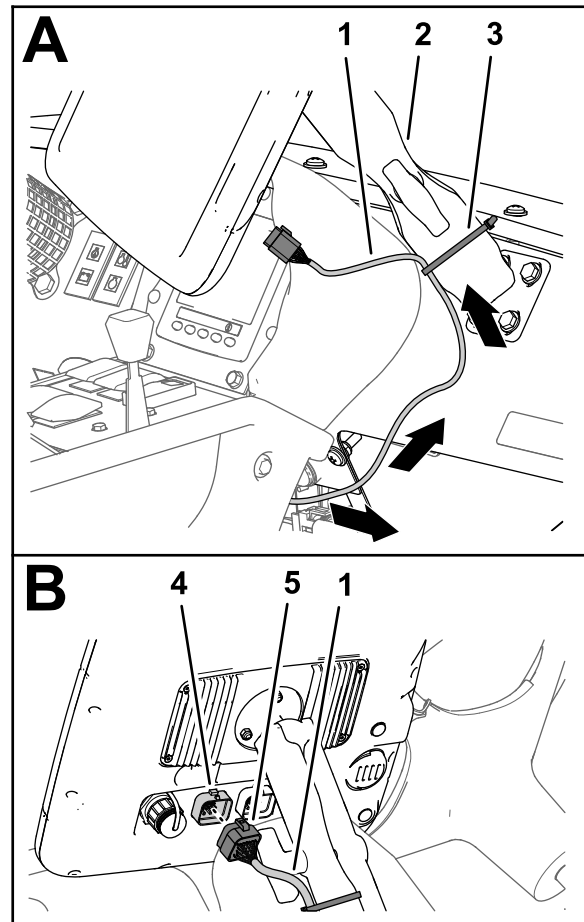

Figure 143
- Route the route the 220 cm (86-5/8 inch) branch of the data harness up through grommet that surrounds the hole in the dash panel (Figure 143).
- Align the 26-socket connector of the data harness with the 26-pin connector of the sprayer display and press the socket connector into the pin connector until the latch of the connector snaps securely (Figure 143).
- Secure the 220 cm (86-5/8 inch) data-harness branch to the monitor arm with a cable tie (Figure 143).